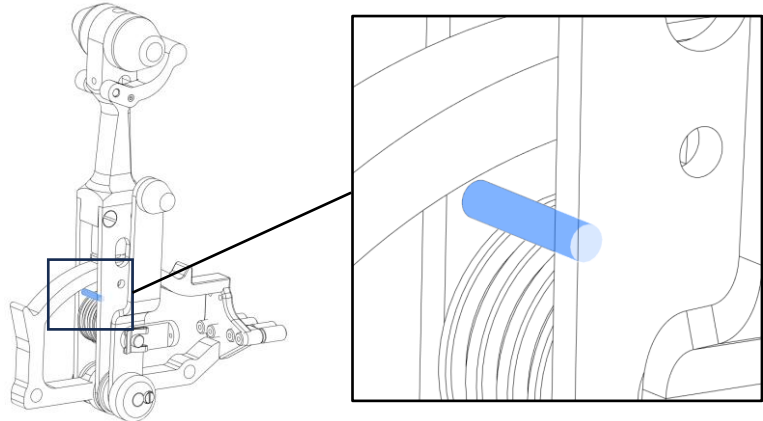

Fig. 1: Improve control lever with pin against control cable slip
- 3) Swap throttle and choke control levers to improvement type (Fig. 1).